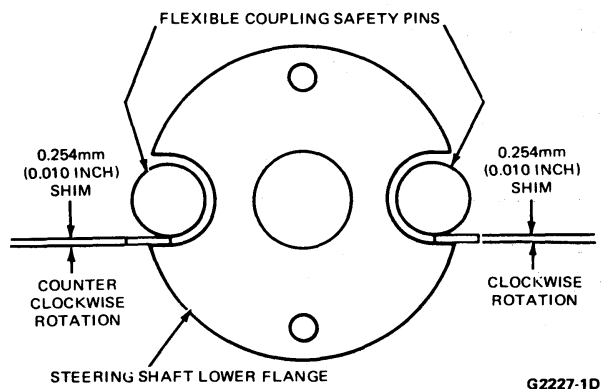

FIG. 1 Flexible Coupling Alignment E-100—E-350
Check the flexible coupling for clearance between the slots on the coupling shaft flange and the flexible coupling safety pins (per Fig. 1). The pin to flange clearance should be 0.254mm (0.010 in). If the flexible coupling has been driven in a non-flat condition for more than 10,420 km (12,000 miles), it is recommended that it be replaced during this check.
4. With the front wheels in the straightahead position, pull the steering column upward until the flexible coupling is in a position between flat and concaved upward (toward steering wheel) 1/10-inch (Fig. 1).
7. Insert a 0.254mm (0.010 inch) shim between the flexible coupling right safety pin and steering column lower flange cut-out (Fig. 1) and turn the steering wheel one revolution clockwise.